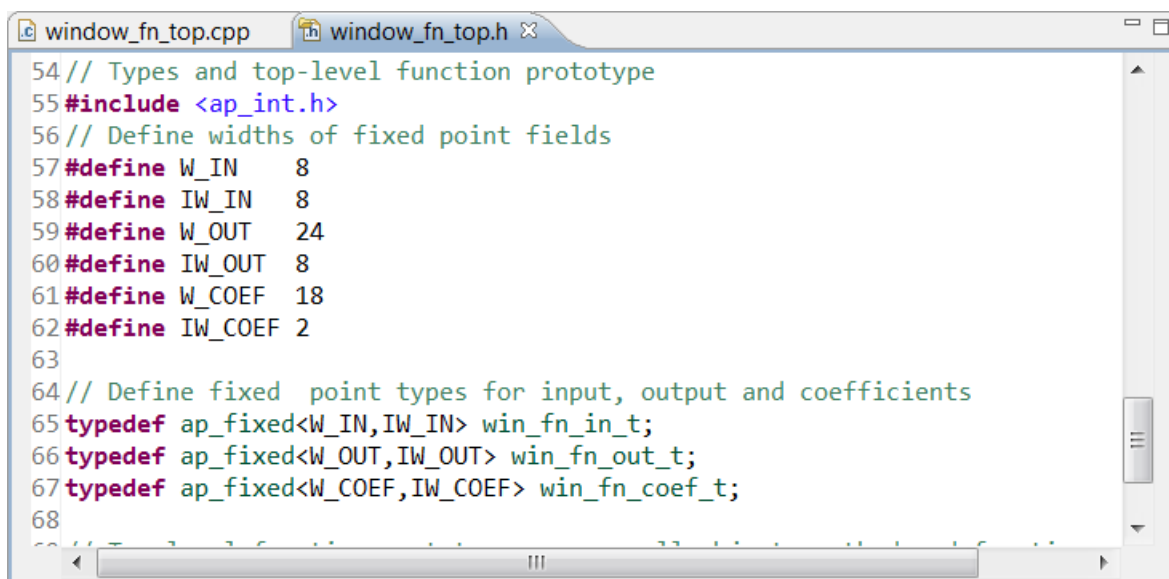

Figure 5-10: Type Definitions for Arbitrary Precision Lab 2
- Scroll down to view the type definitions (Figure 5-10).